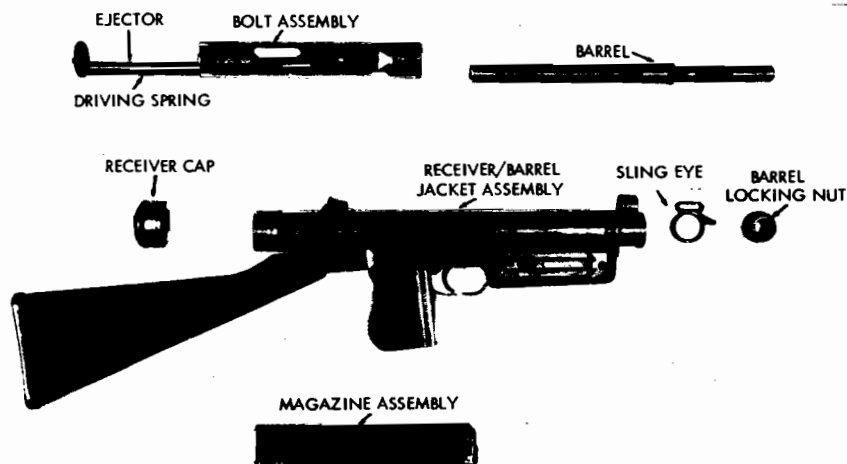

Figure 26. Vz 24 submachinegun, disassembled.
- b. Use a cartridge, punch, or similar item and press in the receiver cap lock in the middle of the receiver cap (fig. 26). Rotate the receiver cap to disengage it from the receiver and remove it.
- d. Unfold the stock, if a Vz 25 or 26 submachinegun. Unscrew the barrel locking nut (fig. 26) (using the front of the bolt as a wrench, if necessary) and pull the barrel out of the receiver.
b. The recoil of the fired cartridge forces the bolt to the rear, compressing the driving spring. The fired cartridge case is held to the bolt by the extractor until the case strikes the ejector (fig. 26). At this instant, the ejection ports in the bolt and receiver are alined with each other, and the cartridge case pivots about the extractor and is thrown out the ejection ports. The bolt continues to the rear until it strikes the plate on the driving-spring assembly; the driving spring then drives the bolt forward again.